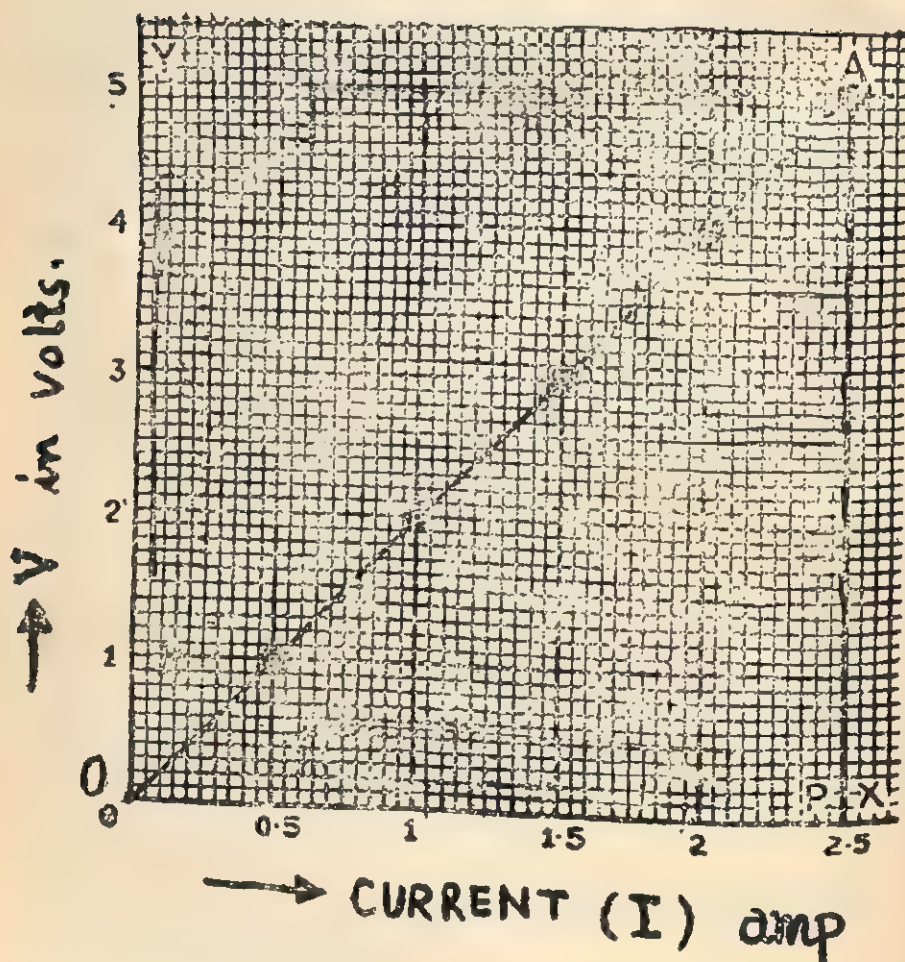

Fig. 12.13.  $V, I$  characteristic of a conductor (resistor) is a straight line.
(4) Take the ratio  $(V/I)$  for the voltmeter and the ammeter readings in each case. You will observe that  $V/I$  is practically constant.
(5) Draw a graph by plotting the ammeter readings ( $I$ ) along the X-axis and the corresponding readings of the voltmeter along the Y-axis as shown in Fig. 12.13.
**Conclusion.** The potential difference ( $V$ ) across a conductor is linearly proportional to the current ( $I$ ) passing through it as indicated by the straight line of Fig. 12.13. The ratio ( $V/I$ ) is called the resistance  $R$  of the conductor.
(v) Draw a graph by plotting the ammeter readings along X-axis and the corresponding voltmeter reading along the Y-axis. The graph is similar to Fig. 12.13.